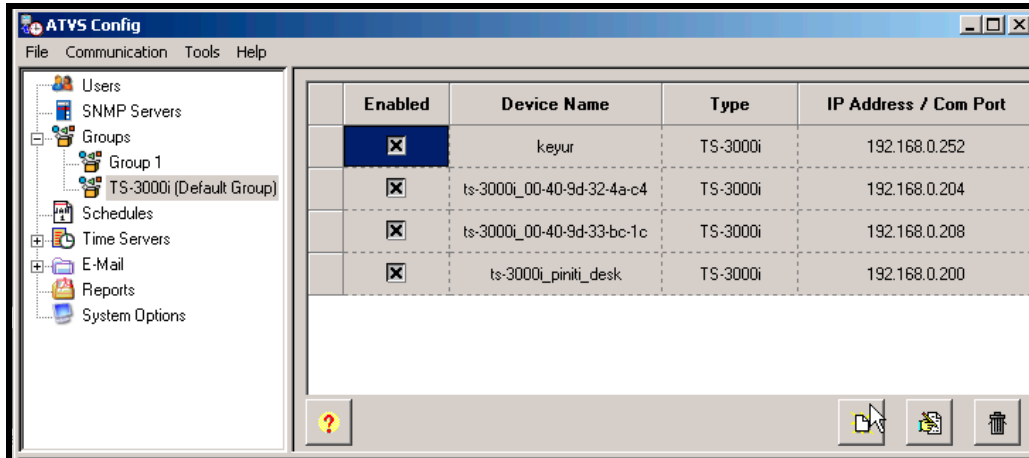

Figure 6-10: Group Selection
Step 1. With the ATVS software open, the Device screen can be launched by going to the Groups icon in the tree view, and expanding the Groups list. Do this by clicking in the tree view on the +. All previously defined groups will appear (see *Figure 6-10*).